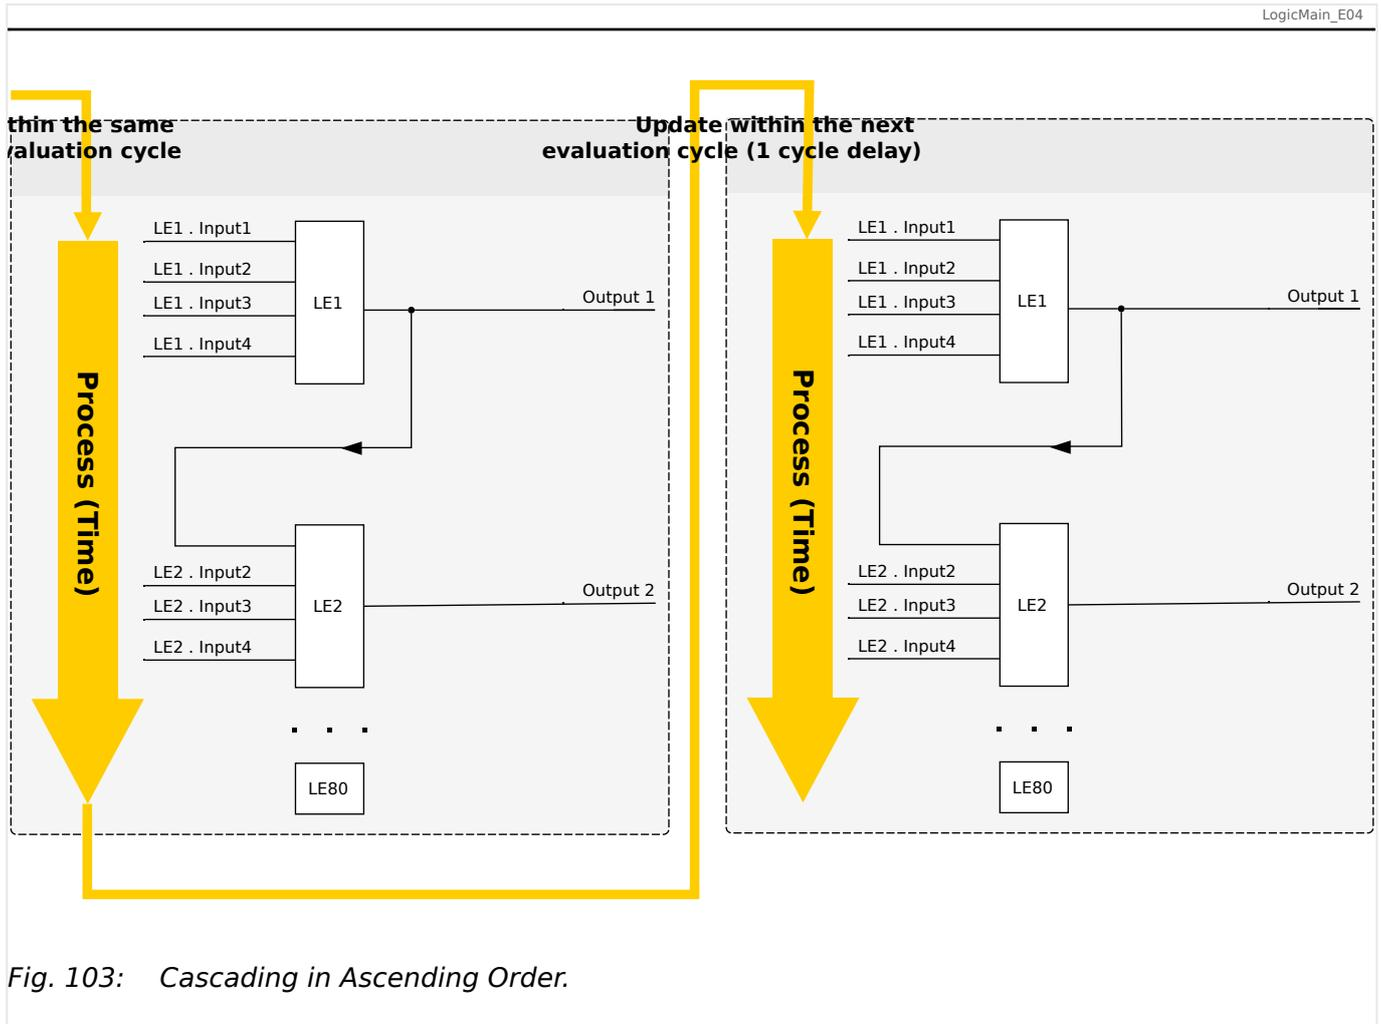
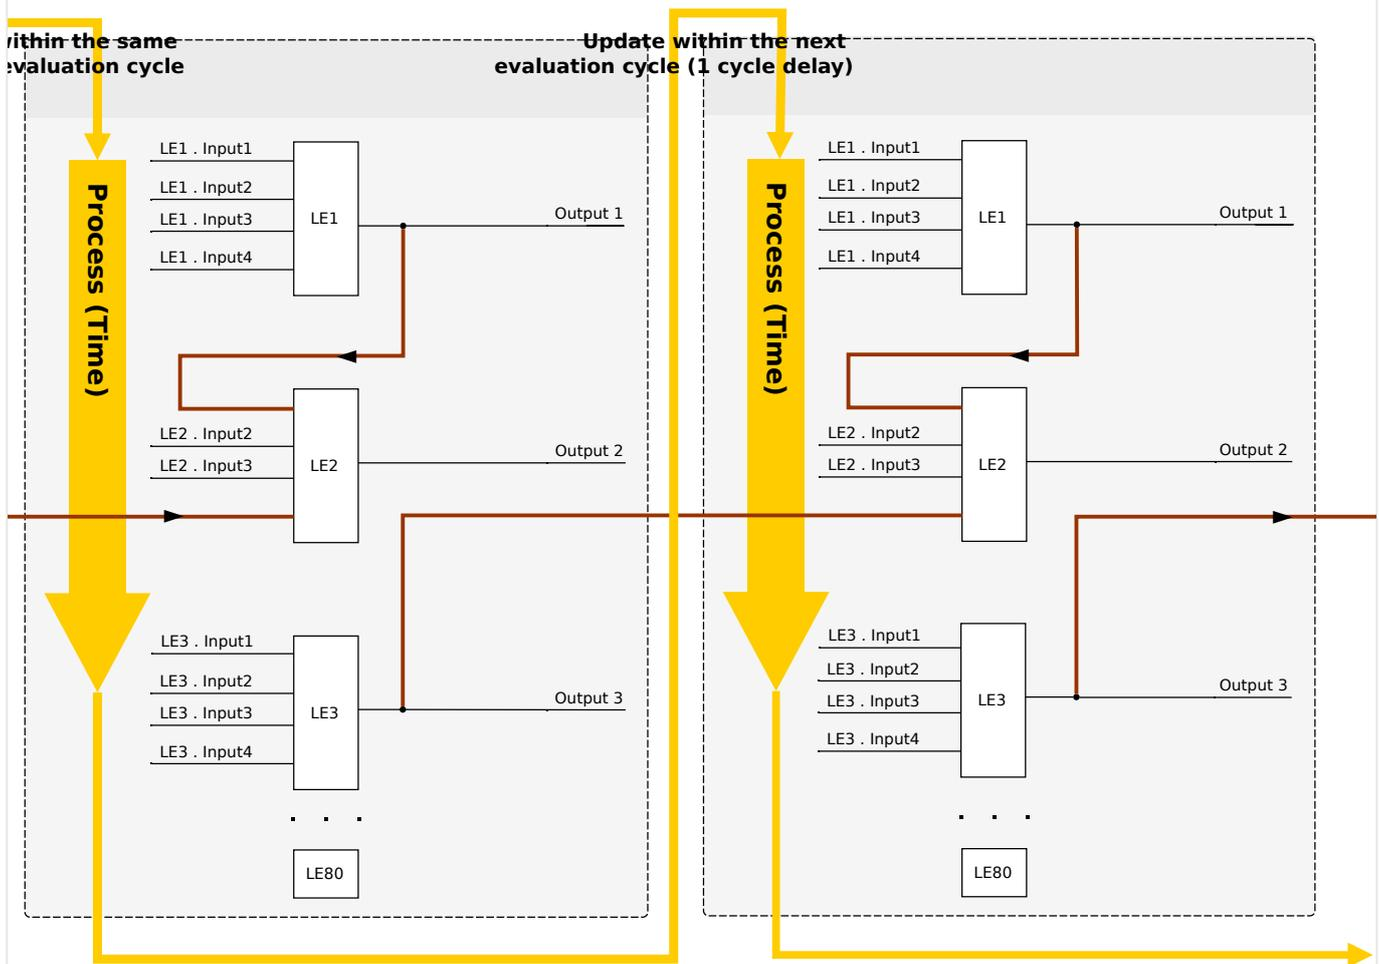

Fig. 103: Cascading in Ascending Order.
Fig. 104: Cascading in Descending Order.
- **Ascending** sequence means that some output is fed into the input of a logic equation with **higher** number. For instance, diagram ↪Fig. 103 below shows an example where the result of Logic Equation LE1 is used as an input of Logic Equation LE2.
- **Descending** sequence means that some output is fed into the input of a logic equation with **lower** number. For instance, diagram ↪Fig. 104 shows an example where the result of Logic Equation LE3 is used as an input of Logic Equation LE2.
Both ascending and descending sequences may be used and combined one with the other, with no immediate difference. However, due to the evaluation of all equations in ascending order the actual run-time values that are fed in at the input of an equation will have a different “age”, as is shown in ↪Fig. 103 and ↪Fig. 104 below.
In the example shown in Fig. 104 above, “Logic Equation 2” uses the output states of two other equations, “Logic Equation 1” and “Logic Equation 3”. The result of “Logic Equation 1” is used in ascending order and has therefore been evaluated within the same process cycle. The result of “Logic Equation 3” is used in descending order and has therefore been evaluated in the previous process cycle.